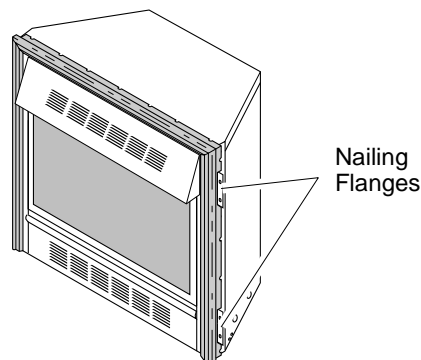

Figure 22 - Location of Nailing Flanges
- Break off nailing flanges (see Figure 22) with hammer or pliers.